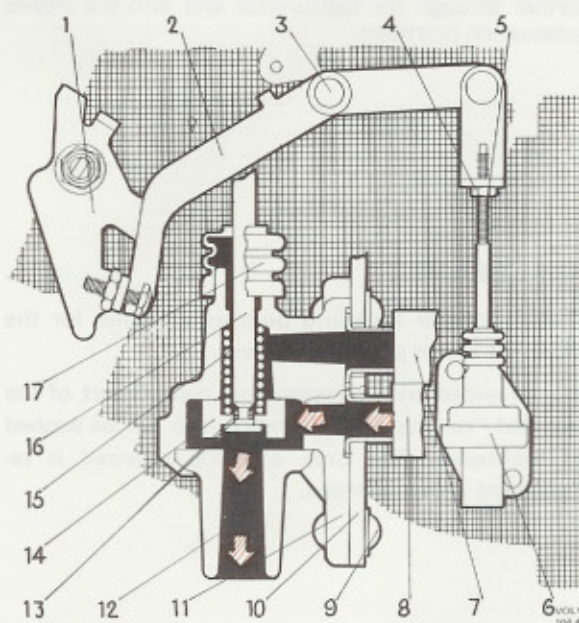

Fig. 23-12. Hot start valve function, idling
When the throttle is at idle, the lever (1, Fig. 23-12) presses against the valve control. The piston (14) is thereby lifted to its upper position by the control rod. The connection between the floatchamber and air cleaner is closed and fuel fumes are led directly out into the atmosphere through the outlet (12).